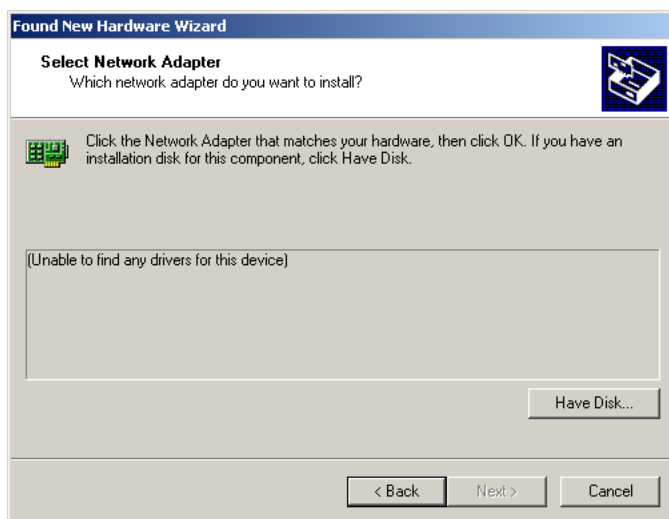

Figure 9. Found New Hardware Wizard – Select Network Adapter Window
4. Select **Network adapters** and click **Next**. The Found New Hardware Wizard – Select Network Adapter window opens (see Figure 9).